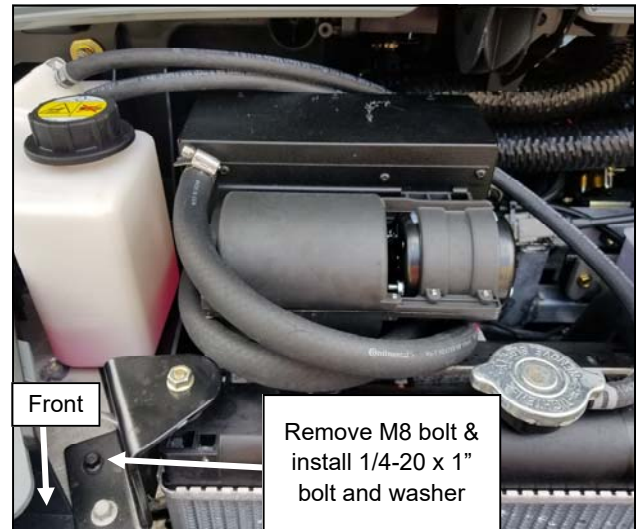

Fig. 4.4
- 4.4 Remove and discard the rear M8 bolt from the radiator bracket, on the passenger's side of the Carryall. Secure the front bracket with a 1/4-20 x 1" bolt with a 1" fender washer, through the radiator bracket and into the threaded insert of the heater bracket. Leave loose. See figure 4.4.